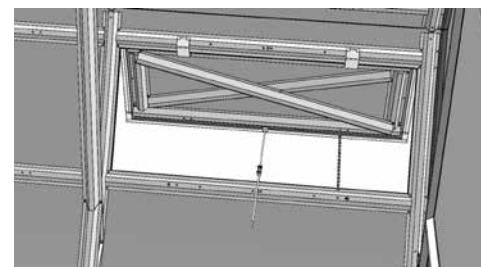

Fig.9
8. The limiting chain is fastened with screws (**fig. 9**).